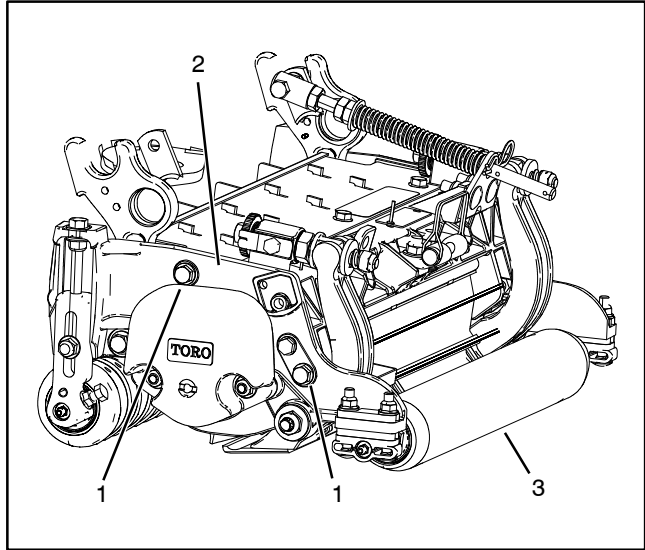

Figure 21
**NOTE:** Cutting units with 5" diameter reel use two (2) shoulder bolts to secure side plates to frame. Cutting units with 7" diameter reel use three (3) shoulder bolts to secure side plates to frame.
4. Loosen, but do not remove, shoulder bolts that secure the side plate to the frame opposite the side that is not level (Fig. 21).